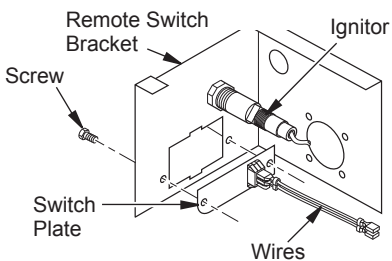

Figure 26 - Switch Plate and Wiring Harness
3. Remove switch plate (see Figure 26). Discard after removing.